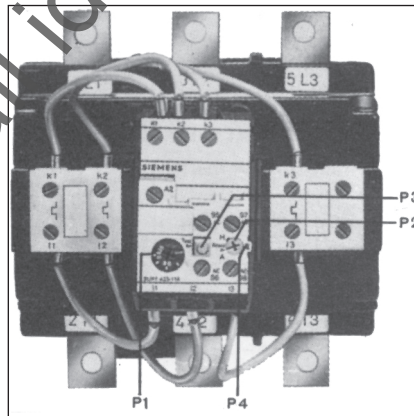

Fig. 6
I. Operational details (Refer fig. 6)
1) Dial Setting (PI)